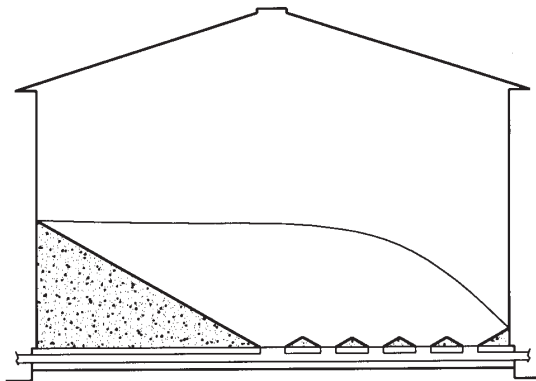

FIG. 7
- When grain flow stops, shut down the unloader and lock-out. The grain remaining should appear as shown in Fig. 7.